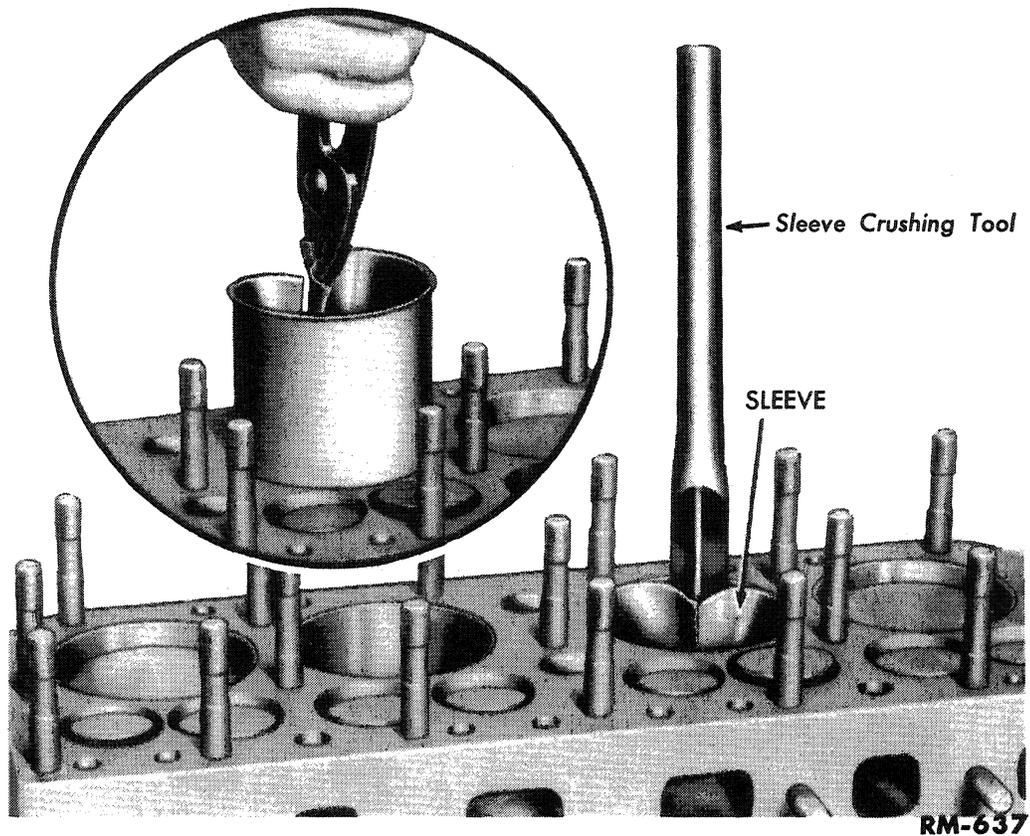

Fig. 14—Removing Cylinder Sleeve
b. **Steel Sleeve Replacement.** Remove the sleeves from the cylinder block, using a crushing tool (fig. 14). Drive the tool all the way to the bottom of the cylinder, then pull the crushed sleeve out of the cylinder. Install new sleeves, using the replacer as shown in fig. 15. After the sleeves are installed, use a piston (without rings) or a plug gauge in the cylinder to determine if the sleeve was properly installed. If the piston or plug gauge has a tendency to stick, the sleeve was buckled during installation. Remove the damaged sleeve, install a new sleeve, and recheck it (fig. 15).